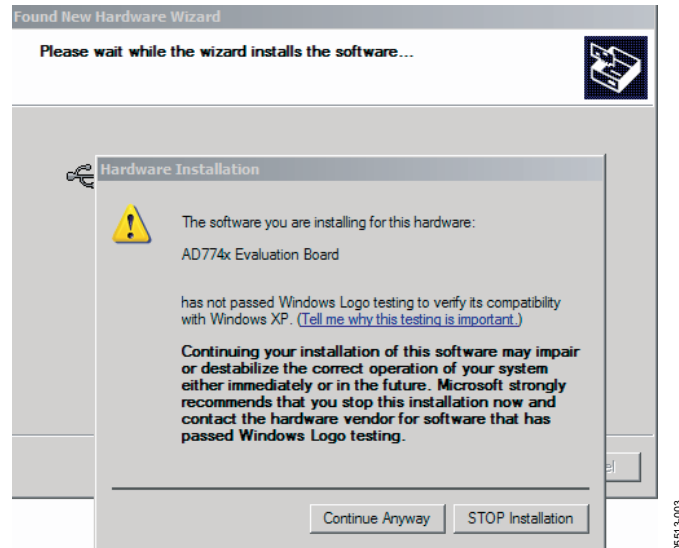

Figure 5. *Windows Logo Warning*
4. Follow the steps in the **Found New Hardware Wizard** window. If a message that the software has not passed Windows® Logo testing appears, click **Continue Anyway** (see Figure 5).